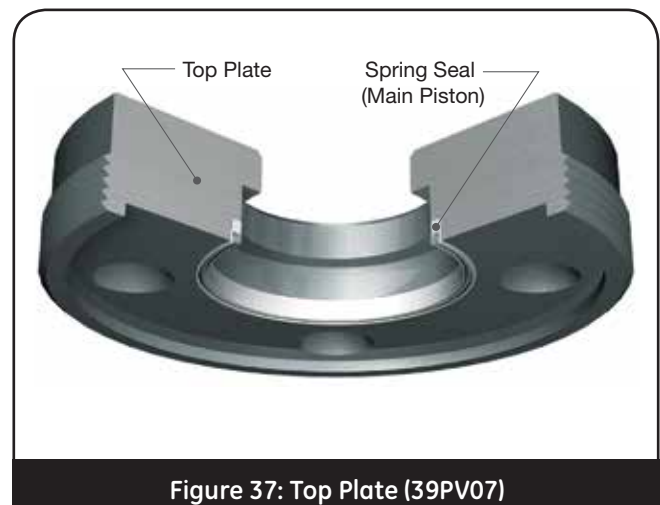

Figure 37: Top Plate (39PV07)
- a. Lubricate the Spring Seal (Main Piston) and Top Plate gland. Install the Spring Seal (Main Piston) into Top Plate. The spring should be oriented as shown in Figures 37 or 38.